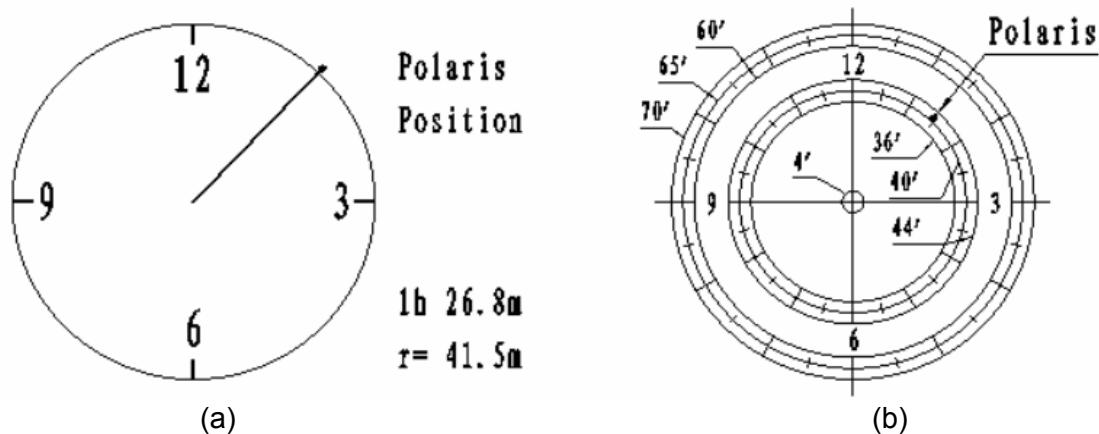

Figure 13
- (1) Turn on the mount power by pressing the **On/Off** switch on the R.A. unit. Pressing the **MENU** button, then select “**Align**” and “**Pole Star Position**”. For example, on May 30, 2010, 20:00:00 in Boston, US (Lat N42°30'32" and Long W71°08'50"), 300 min behind UT, the Polaris Position is 1hr 26.8m and  $r = 41.5m$ , as shown in Figure 13 (a).
- (2) Look through the polar scope; make sure the polar scope is not blocked by the DEC axle. The 12 o'clock indicator of the Polar Scope Dial must be positioned on top.
- (3) Follow the **Polar axis adjustment** procedure (**not the hand controller**) to adjust the mount in altitude (latitude) and azimuth (heading) direction and place Polaris in the same position on the Polar Scope Dial as indicated on the HC LCD. In this case, the Polaris will be located at a radius of 41.5' and an angle of 1 hour 26.8 minute, as shown in Figure 13 (b).
Remove the CW Safety Screw on the end of the CW shaft. Loosen the CW Locking Screw on the side of the CW (there is a CW pin inside) and slide the CW into the shaft as shown in Figure 13(a). Tighten the CW Locking Screw to hold the CW in place. Tighten the CW Safety Screw.